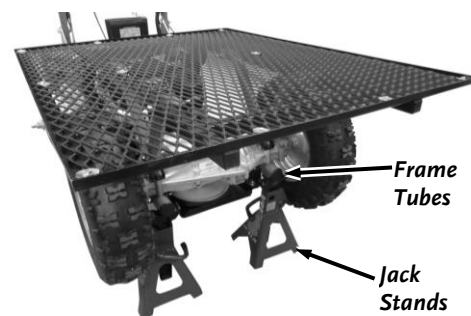

Figure 43
1. Block the machine up off the ground so that the Front Wheels spin freely (**Figure 43**).